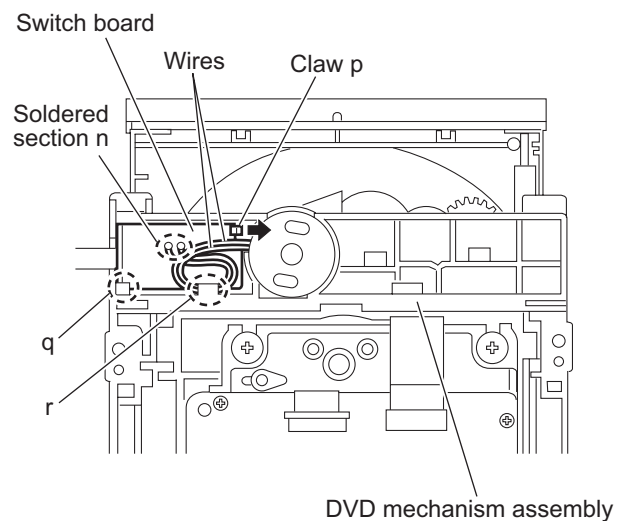

Fig.14
3.3.8 Removing the switch board (See Fig.14.)
3.3.9 Removing the motor (See Figs.14 and 15)
- (1) From the bottom side of the DVD mechanism assembly, remove the wires from the soldered section **n** on the switch board. (See Fig.14.)
Put the wires on the section **r** after attaching the motor to the DVD mechanism assembly. (See Fig.14.)